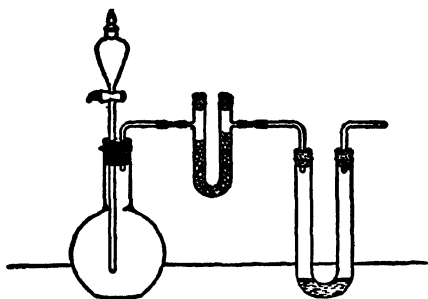

FIG. 23.
a. Fit up a 250 c.c. flask with a dropping-funnel and exit tube, and connect with a U-tube (Fig. 23). Render the apparatus airtight and test it (?). Fill the U-tube with dry, broken glass or porcelain (why?), mixed with a little red phosphorus (why?).
a. Use the apparatus in Fig. 23. Place in the flask a mixture of finely powdered iodine (20 g.) and red phosphorus (1 g.) intimately mixed in the mortar. Charge the U-tubes as in 51 a. Place a little water in the dropping-funnel, and allow the water to drop very slowly upon them (?). After the air has all been expelled, and the solution in the second U-tube has become sufficiently concentrated, remove the second U-tube. Test the issuing gas with moist air (?) and with ammonia (?) as in 51 a. Hold in the gas a piece of filter paper dipped in starch emulsion alone (?). Explain (?). Reserve the contents of the second U-tube for use in c.